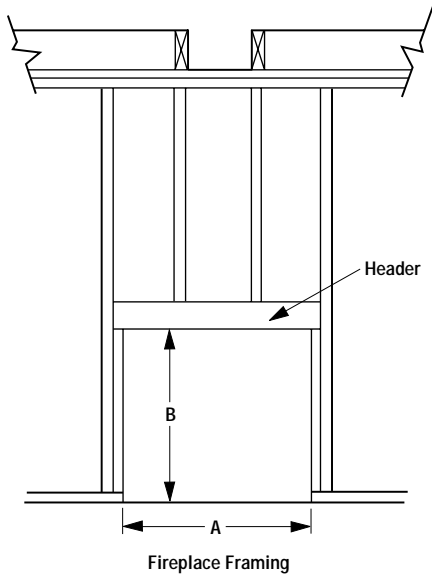

Figure 11
Step 3. Refer to fireplace drawings and specifications on pages 6 and 7 for framing dimensions and details. Frame appliance enclosure as illustrated in **Figures 11 through 14** on page 8.